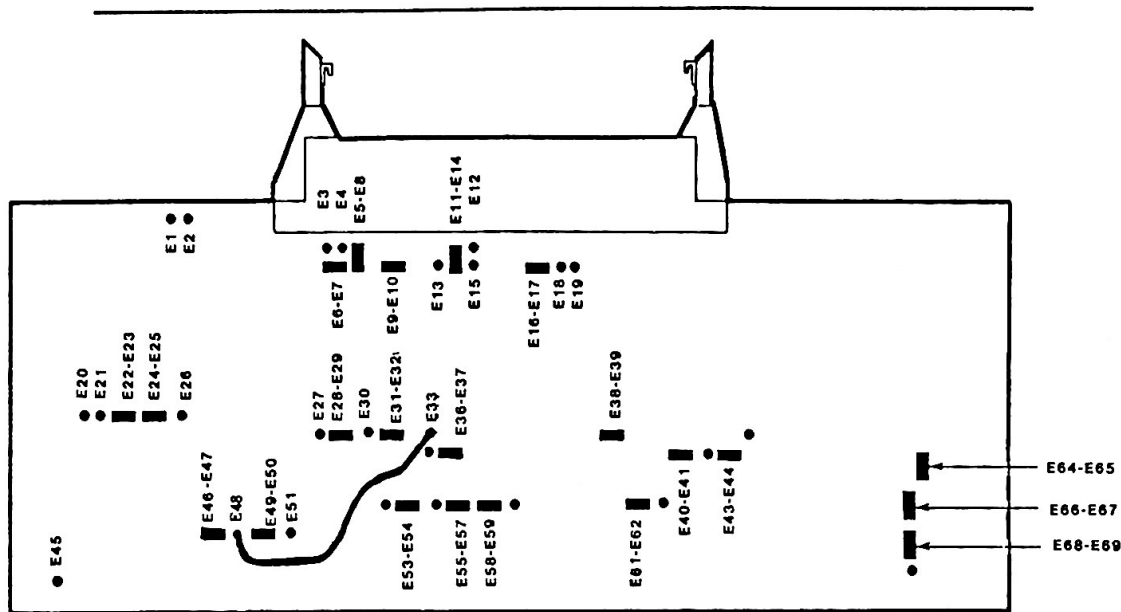

Figure 2-1. Winchester Drive (Priam) Partial View
6. If so equipped, LOCK the shipping restraint on the existing Winchester drive and ensure that the heads are still locked on the additional Winchester drive. See Figure 2-1.
- First, disconnect the signal cable from J1 at the front of the existing Winchester drive (refer to Figure 2-1 for location of J1 on a PRIAM Winchester drive).